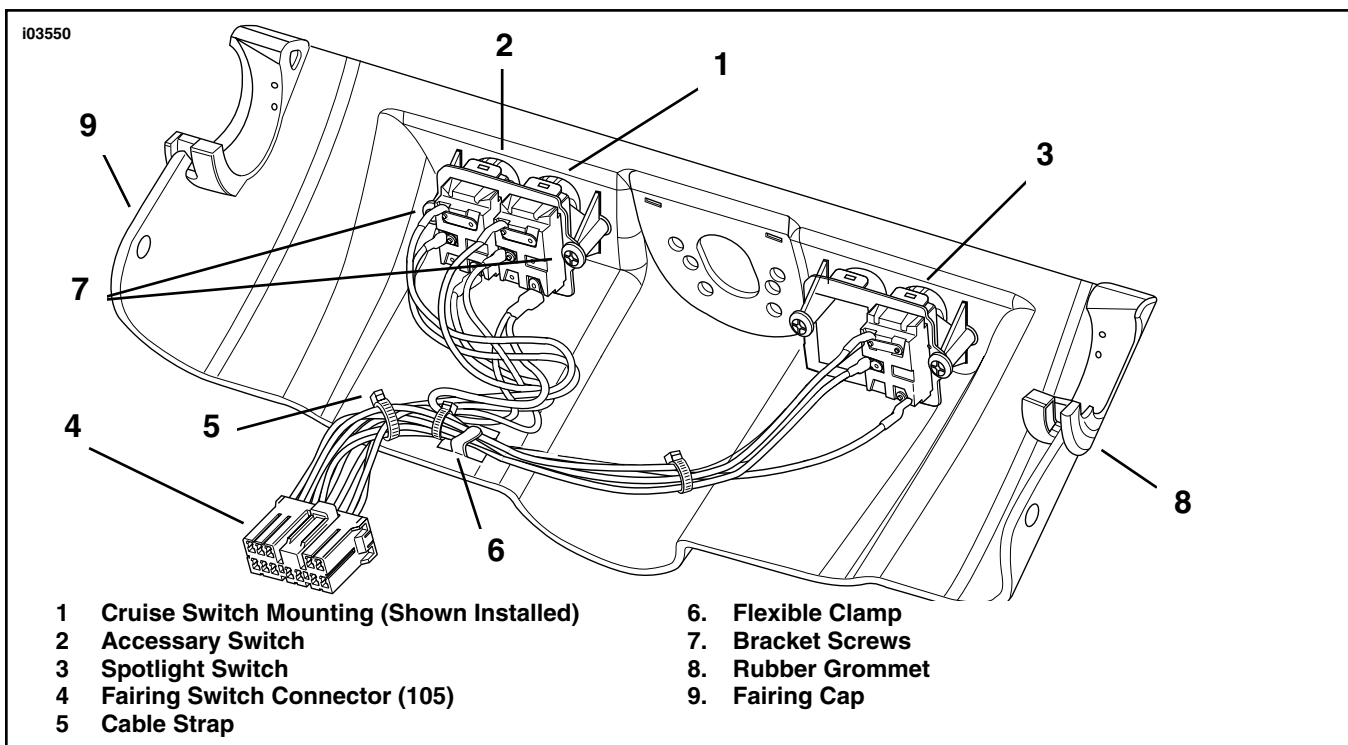

Figure 9. Fairing Cap (Inboard Side) Illustrating Cruise Switch Installed
39. See Figure 9. Bend back the flexible clamp to release switch wires from the inboard side of the fairing cap.
40. Locate cruise switch location (in other half of bracket next to accessory switch) Figure 9 illustrates location with switch installed.
- Black/Green Wire-Install the wire with Pin Terminal into Chamber 12 of the Fairing Switch Connector [105]. NOTE: See Figure 9. Tape the end and tie off the other black/green wire. If the bike has a speaker switch, it needs to be hooked to the ground wire on that switch.**
45. Refer to Figure 9 and 10. Using a T25 TORX® drive head, install two screws to secure switch bracket to fairing cap.